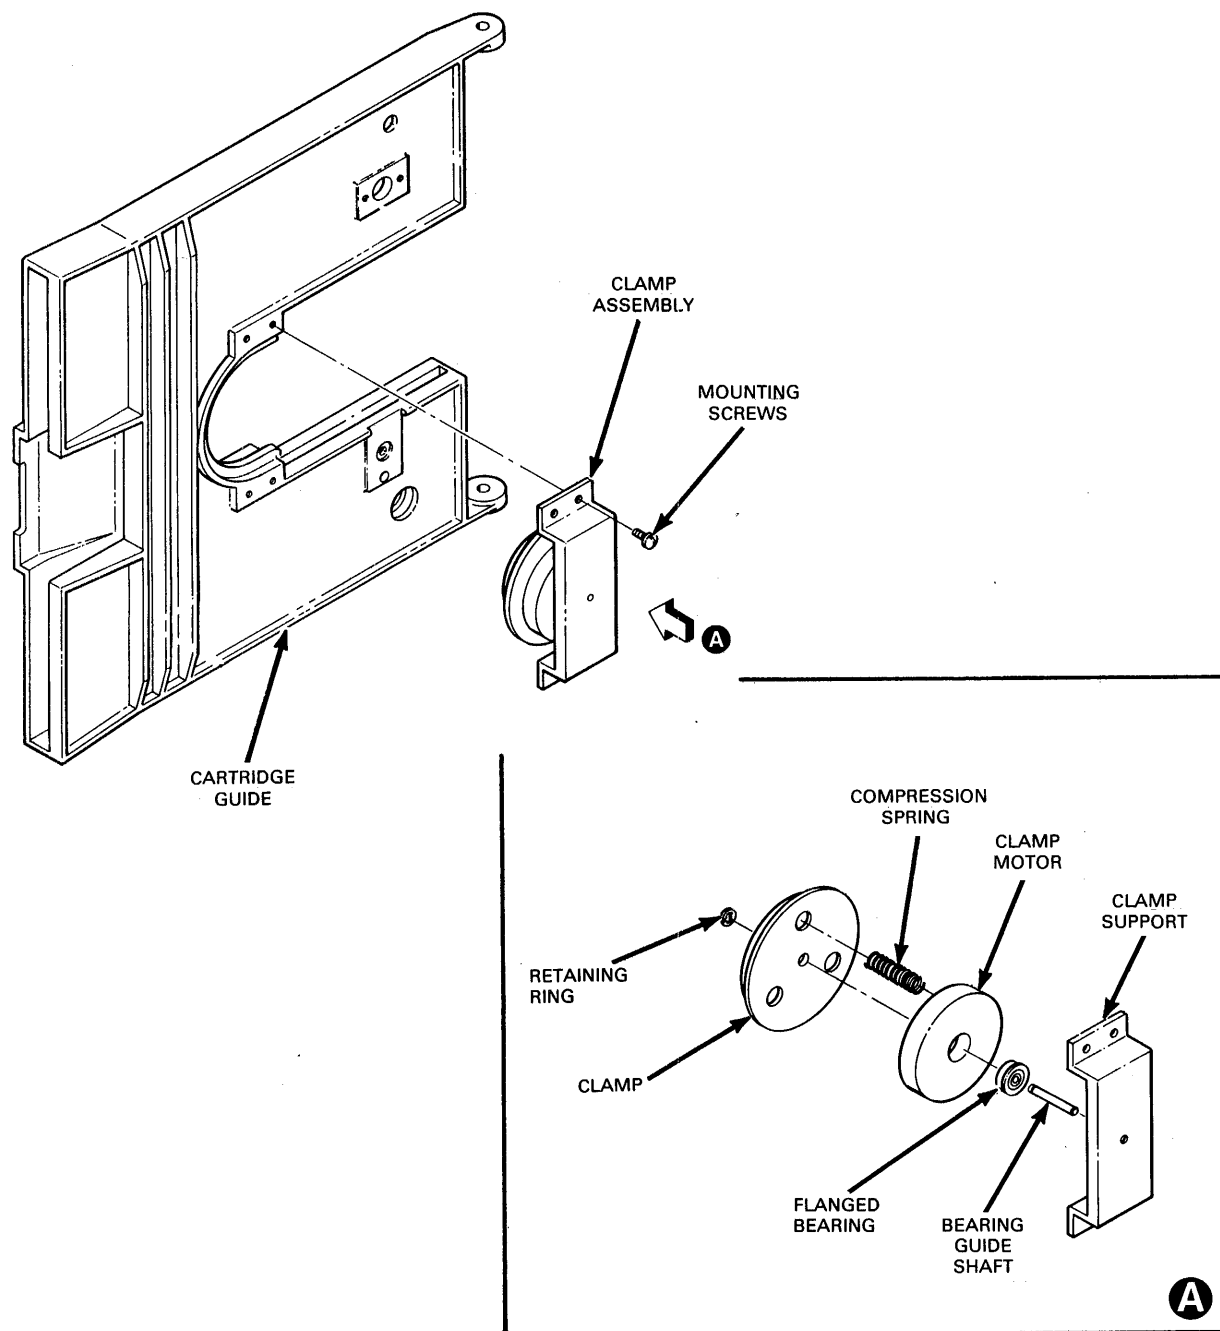

Figure 5-13. Clamp Assembly Removal and Replacement
3. Slightly loosen four screws in clamp support bracket (Figure 5-13) sufficiently to withdraw clamp from contact with hub.
2. Remove four Clamp Assembly mounting screws from clamp support bracket (Figure 5-13).
2. Position Clamp Assembly in cartridge guide (Figure 5-13).